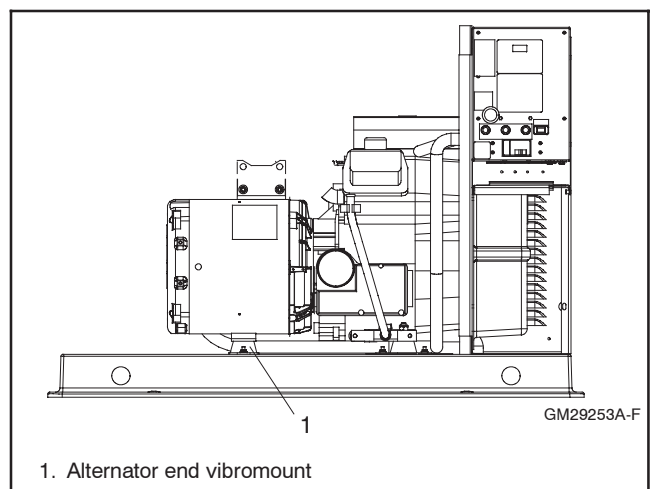

Figure 7-8 Generator Set, Right Side (typical)
- a. Remove the nuts securing the alternator end vibromount mounting plate to the skid. See Figure 7-8.